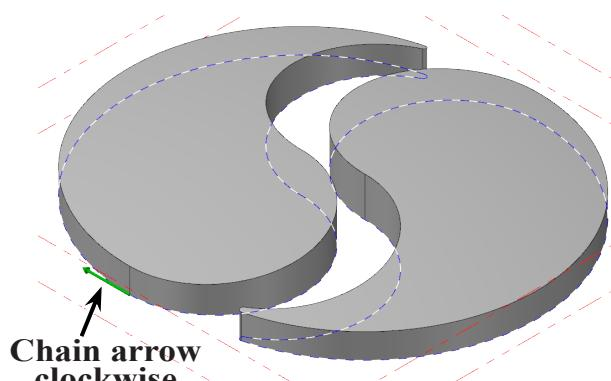

Fig. 85
Step 7. The chain arrow should point **clockwise** around the chain, Fig. 84. If chaining directions arrow is pointing in the opposite direction - click Reverse , Fig. 85.
Step 8. Click OK  in Chaining dialog box, Fig. 85.